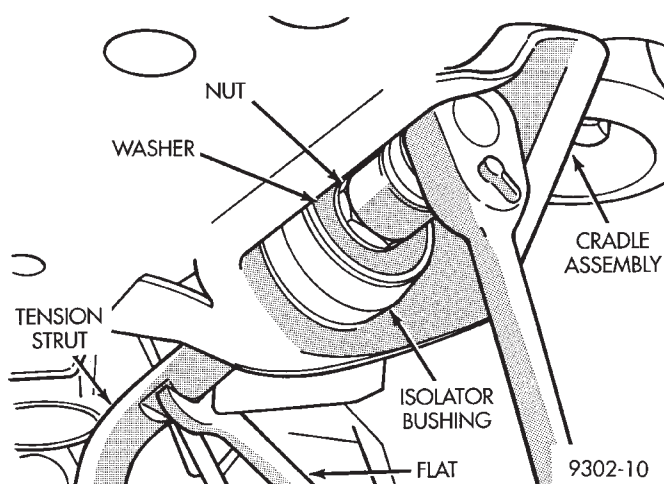

**Fig. 40 Tension Strut To Cradle Mounting**
(5) Remove tension strut to cradle attaching nut and washer from end of tension strut (Fig. 40). When removing tension strut nut, keep strut from turning by holding tension strut at flat using open end wrench (Fig. 40). **Discard tension strut to cradle retaining nut. A NEW tension strut to cradle nut must be used when installing tension strut.**
(3) Install washer on end of tension strut (Fig. 40). Install a **NEW** tension strut to cradle bracket nut, on tension strut (Fig. 40). Tighten the tension strut to cradle bracket retaining nut to a torque of 130 N·m (95 ft. lbs.). When torquing tension strut nut, keep tension strut from turning by holding tension strut at flat using an open end wrench (Fig. 40).